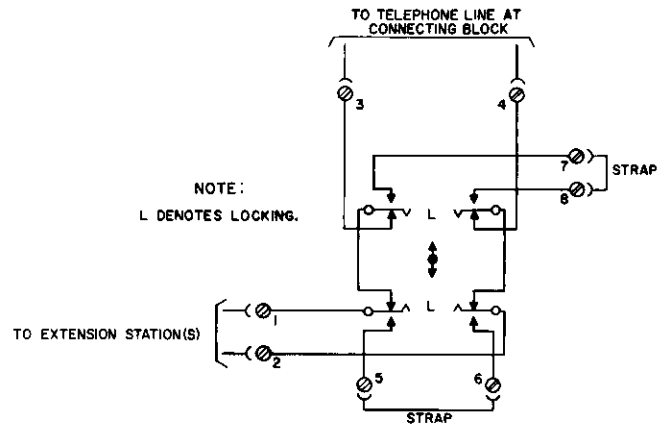

Figure 6. Exclusion Feature with Line Shorting.
- (1) Terminate the red and green conductors of the station wire run to the extension stations at terminals 3 and 4G of the main station connecting block, rather than at terminals L1 and L2, as the line conductors and main station line cord conductors are. When ground is required for divided ringing or ANI, use a Type 15 connecting block and terminate the red and green conductors from the extensions at terminals 3 and 5.
- (2) Using four-conductor station wire, connect the red and green (or first pair) conductors to terminals L1 and L2, and the yellow and black (or second pair) conductors to terminals 3 and 4G (or 3 and 5, where ground is involved) at the connecting block.
- (3) Run the four-conductor wire to the MC-8885-A key, and connect the yellow and black conductors to terminals 1 and 2, and the red and green conductors to terminals 3 and 4 at the terminal strip on the key assembly.
- (4) Strap key terminals 5 to 6 and 7 to 8 (Figure 6).